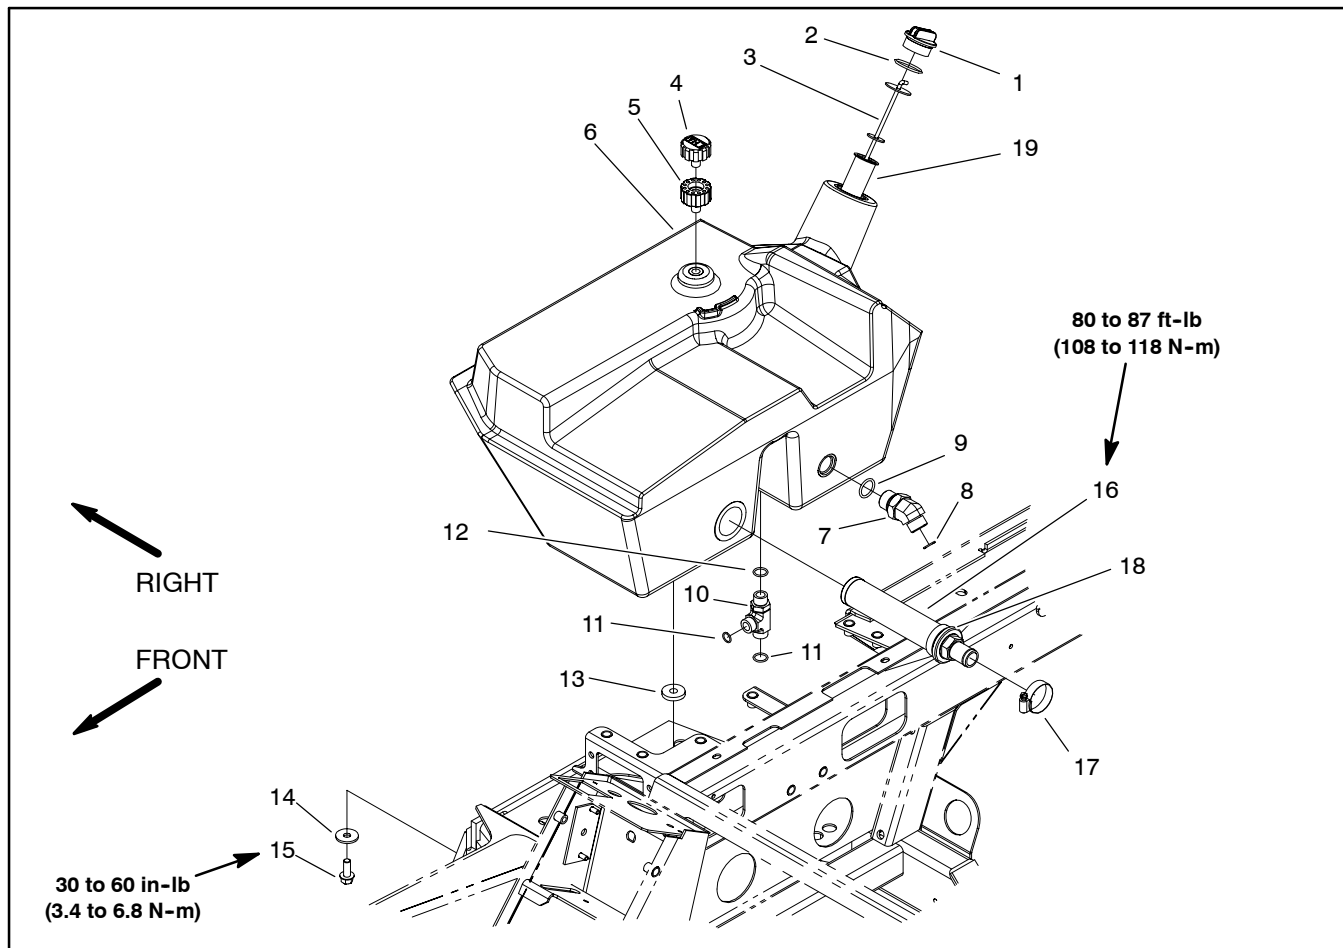

Figure 100
5. Remove hydraulic reservoir using Figure 100 as a guide.
1. Install reservoir using Figure 100 as a guide. Torque mounting cap screws (15) from 30 to 60 in-lb (3.4 to 6.8 N-m).